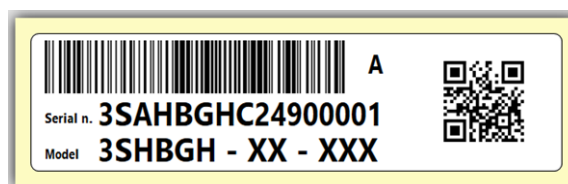

Figure 6: example of frame label.
2. Frame label: placed on the side of the frame and containing the product serial number, the barcode, a QR code, the current class, and the product code (Figure 6).